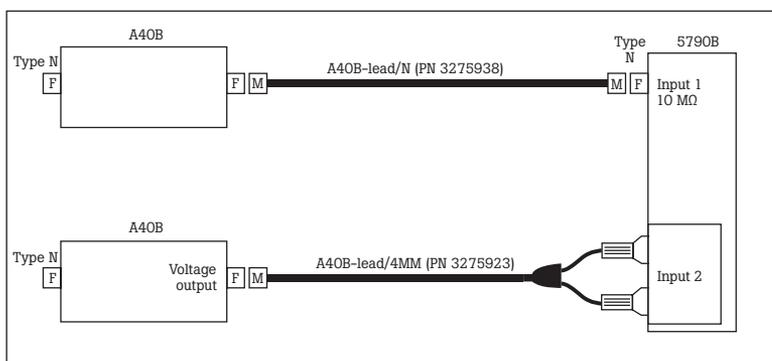

Figure 6. A40B connection examples
Figure 6 illustrates the connection simplicity of the A40B, which can either be connected directly to Input 1 (N-type coaxial) or Input 2 (standard terminal jacks). Connecting the A40B shunt directly to Input 1 eliminates cable and associated errors. Please note that if this is the preferred connection, consider the following to prevent damage to the equipment:
3. For the larger A40B shunts, there is not much clearance when the shunts are directly connected. In this case, Fluke Calibration recommends the use of one of the A40B-leads, shown in Figure 6; and not making a direct connection into Input 1.